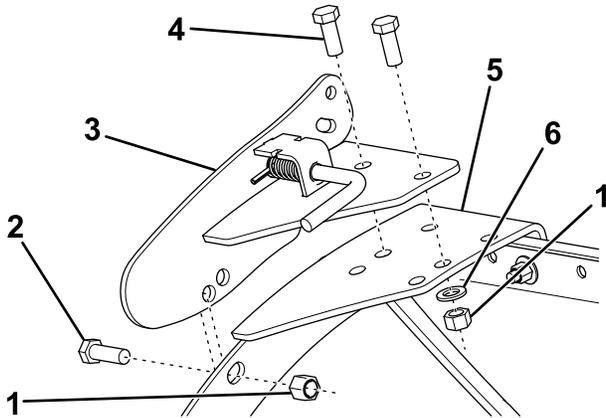

Figure 3
6. Loosely attach the spring bracket to the spring bracket base-plate using 2 bolts (1/2 x 1-1/4 inches), washers, and locknuts (Figure 3).
7. Loosely attach the spring bracket to the side of the plow using a bolt (1/2 x 1-1/2 inches) and locknut (Figure 3).